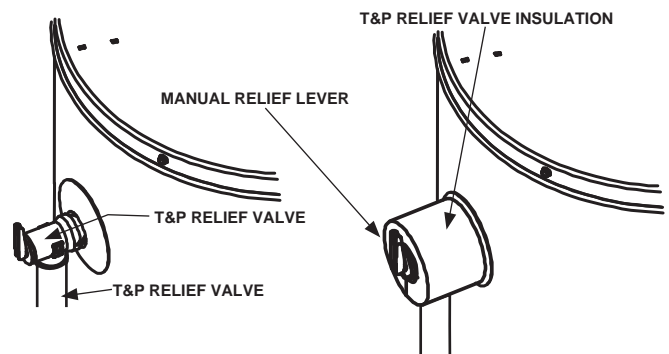

FIGURE 19.
3. Spread the slit open and fit the insulation over the T&P relief valve. See Figure 19. Apply gentle pressure to the insulation to ensure that it is fully seated on the T&P Relief Valve. Once seated, secure the insulation with duct tape.
- IMPORTANT:** The insulation or tape should not block or cover the T&P relief valve drain opening. Also, the insulation or tape should not block or hinder access to the manual relief lever (Figure 19).